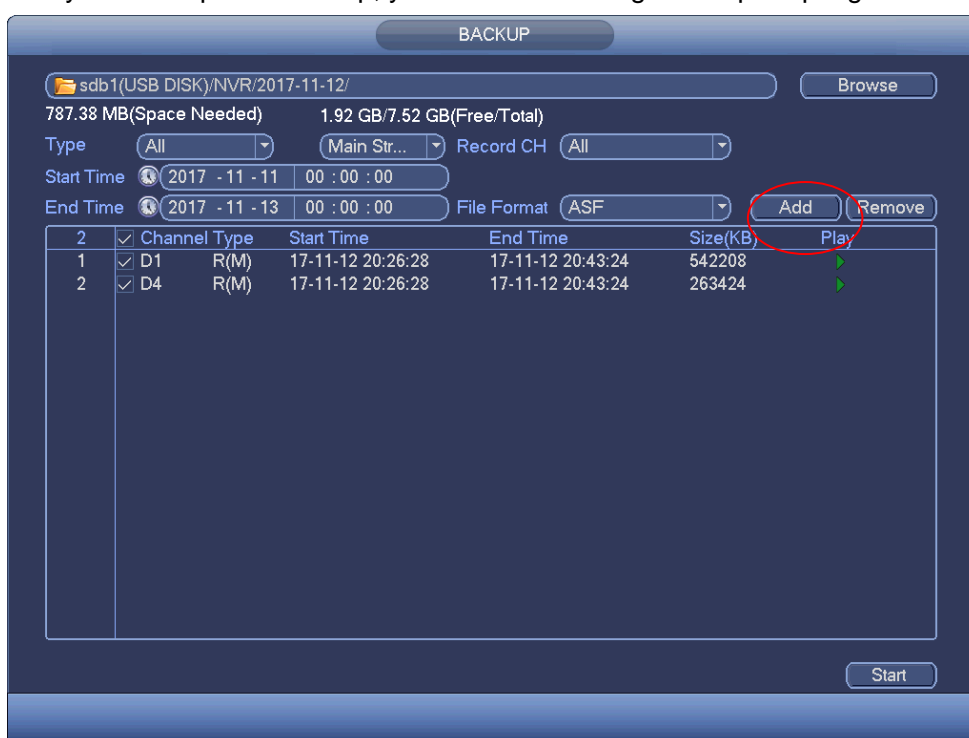

Figure 4-128
- Click add button, system begins search. All matched files are listed below. System automatically calculates the capacity needed and remained. See Figure 4-128.